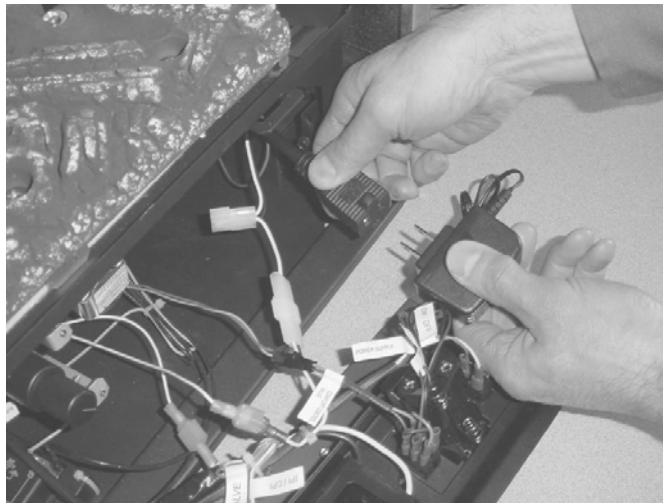

Figure 2
- 2 Unplug the ac adapter from the power harness (see Figure 2). You can leave the ac adapter plugged into the wiring harness.